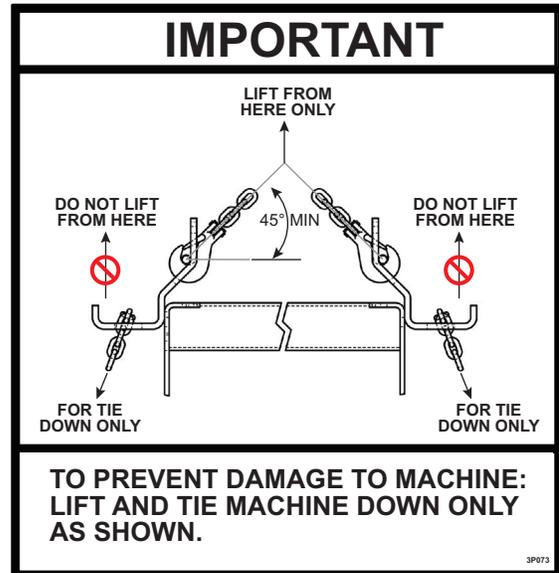

Figure 3-25: Lifting and Tie-Down Decal
5. Open Rear Seed Box Cover to prevent possible damage during lifting. Tie machine down on the trailer as shown on decal. **See Figure 3-25.** Close Rear Seed Box Cover.